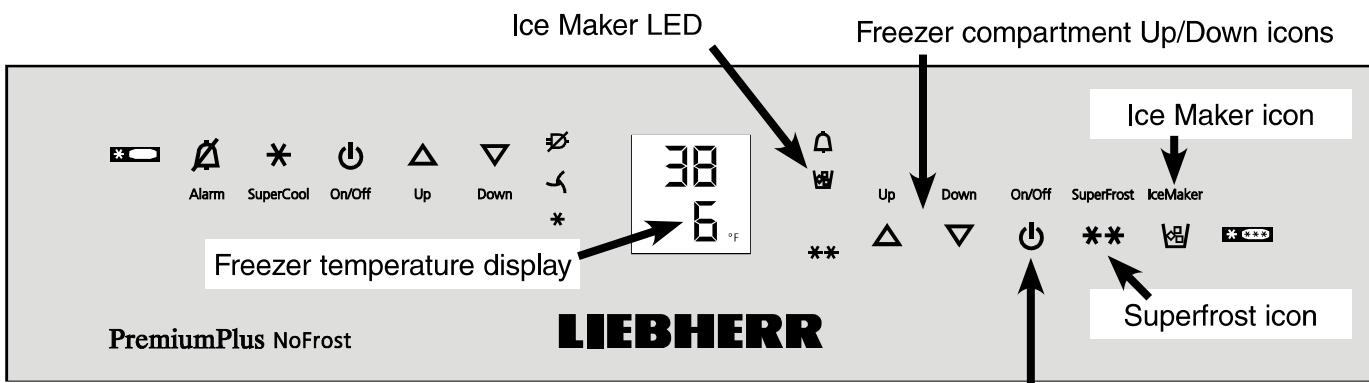

Figure 23
- Turn the Ice Maker on by touching the Ice Maker icon (**Figure 23**).
- Touch the Ice Maker icon so the **Ice Maker LED** comes on (**Figure 23**).
- Push down the button of the air filter, tilt to the front and remove - **Figure 23.**